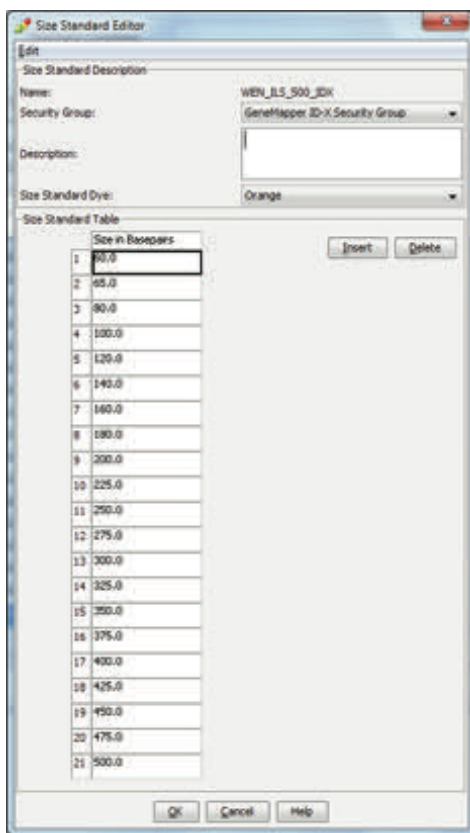

Figure 12. The GeneMapper® ID-X Software Size Standard Editor.
4. In the Size Standard Editor window (Figure 12), select “GeneMapper ID-X Security Group” as the Security Group. This allows access for all users of the software. Other security groups may be used.